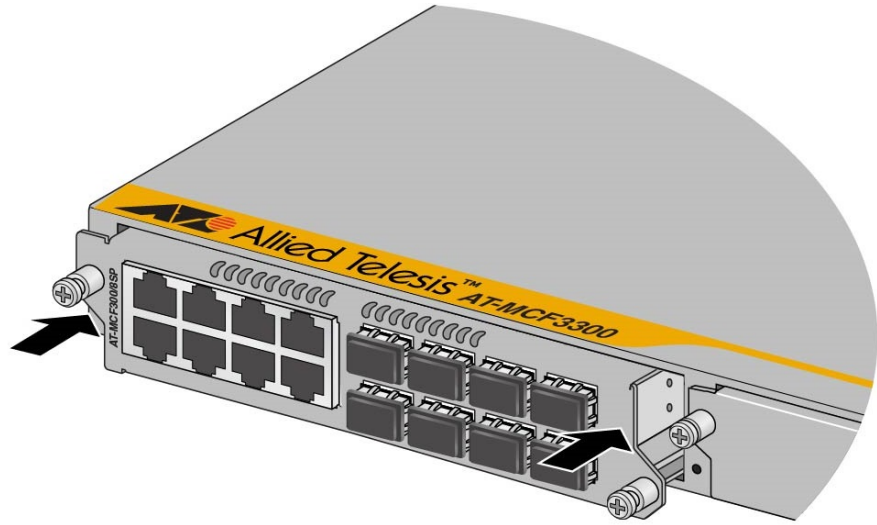

Figure 31. Seating a Media Converter Module on the Backplane Connector
5. Gently press on both sides of the faceplate to seat the module on the backplane connector in the chassis. Refer to Figure 31 on page 68.